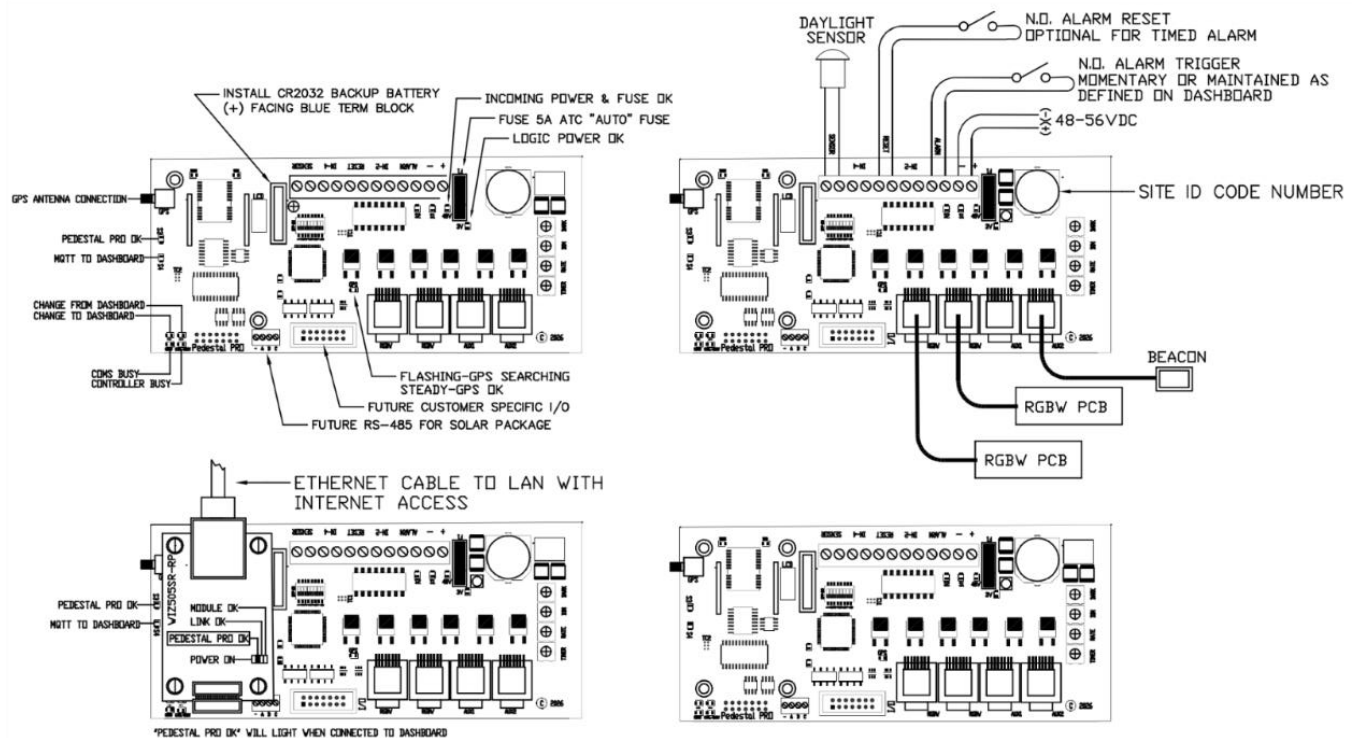

Figure 14 Control board and its wire/cable connections.
1. Control Board (see Figure 14)
2. Ethernet Module (see Figure 14)
3. Cellular Module (see Figure 14)